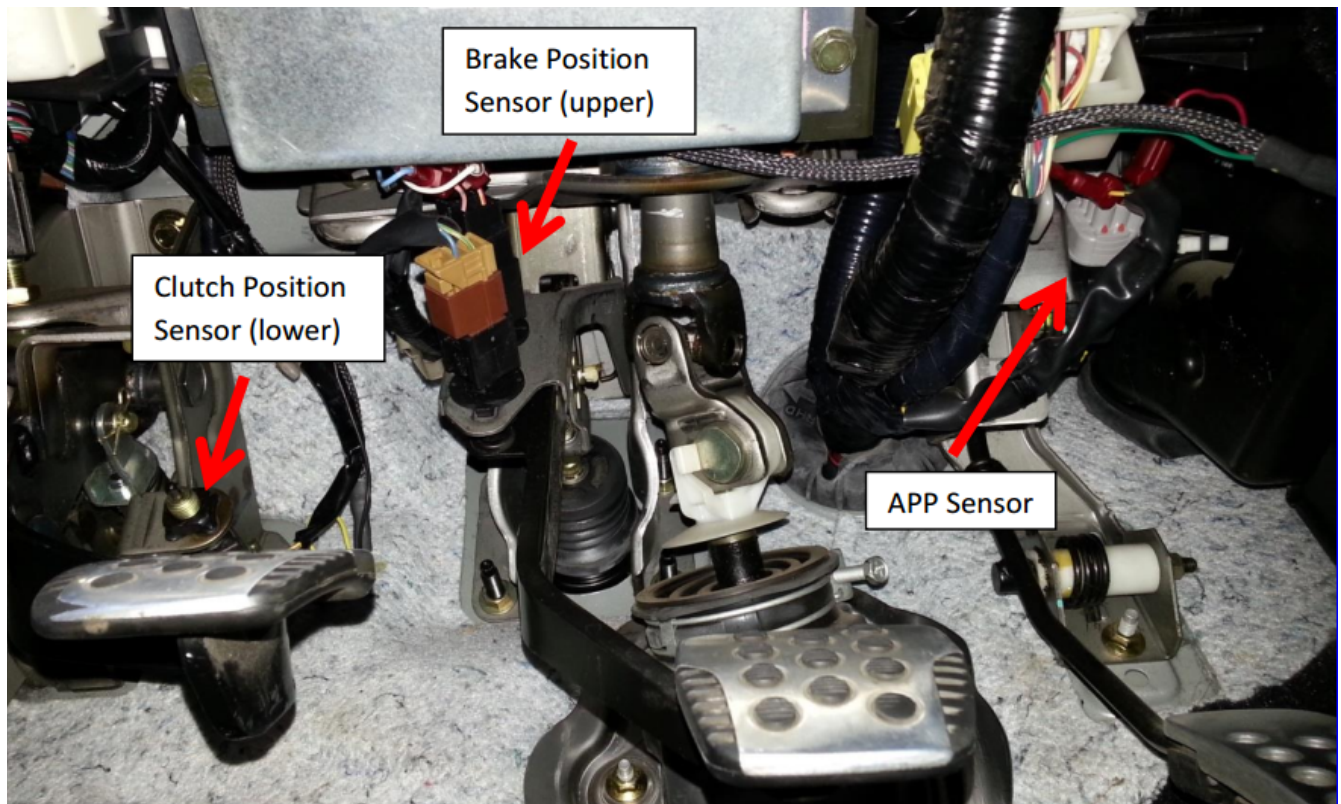

Figure 1 - Sensor Locations (for general placement purposes - pic not specific to 400Z)
- Connect **AUTO-BLiP Black** wire (Ground) to the wire behind **pin #4** at OBD2 port (Figure 1 above).
- Connect **AUTO-BLiP White** wire (12v source) to the wire behind **pin #16** at OBD2 port (Figure 1 above).